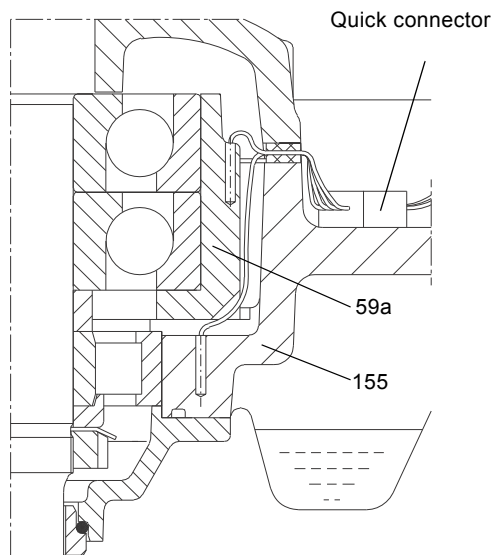
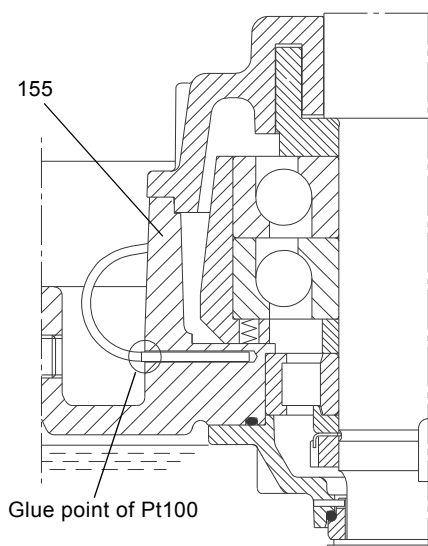

Fig. 20 Pt100 sensor positions in the lower bearings
Fig. 21 Pt100 in lower bearing bracket on pumps manufactured after 2010
Pt100 in lower bearing bracket can be fitted in three places depending on pump manufacturing year. In pumps manufactured before 2012, sensors are fitted to the locking ring (59a) and lower bearing bracket (155). See fig. 20. One sensor can be fitted to the lower bearing bracket (155), but in a different place, see fig. 21. There are two methods for changing the sensors, and both methods are described here.
1. See fig. 20. Cut the wire of the Pt100 right next to the sensor.
1. See fig. 21. Pull out the sensor using a pair of tongs.
3. Insert the sensor into the hole in the lower bearing bracket (155).
4. Spread glue around the sensor end, see fig. 21.